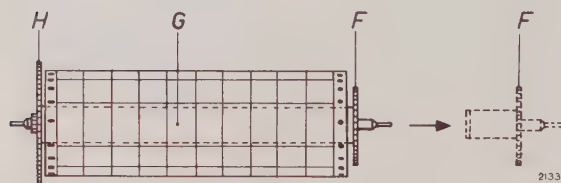

Fig. 25. Winding roller with chart
6. Hold the winding roller in the hand and pull the knurled wheel F, so that this slides out of the cylinder G, see Fig. 25.